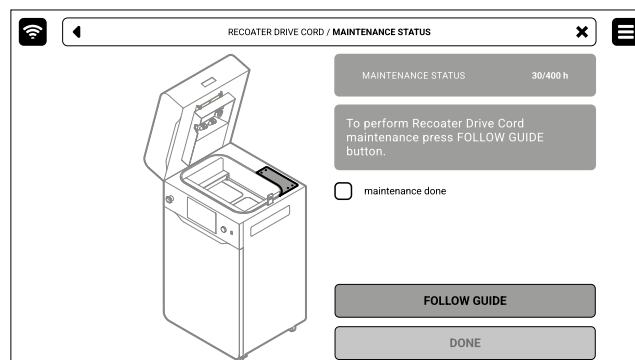

Fig. 12.68 The screen of the maintenance of the Recoater Drive Unit Cord.
3. In this case, mark **MAINTENANCE DONE** once you have completed the procedure, and then the **DONE** button. The timer will reset to zero (fig. 12.68).